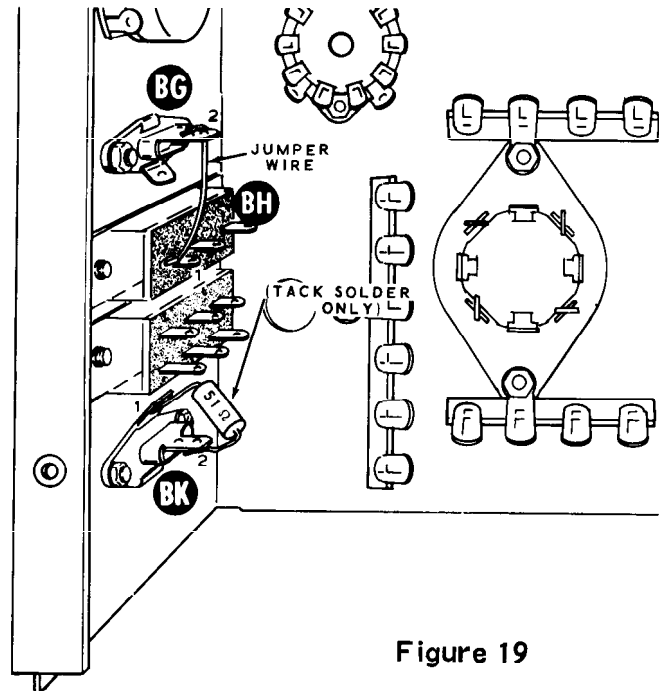

Figure 19
- () Refer to Figure 19 and temporarily connect a short jumper wire from lug 1 of the HAM SCAN-SPECTRUM ANALYZER slide switch (BH) to the center lug of the IF INPUT phono socket (BG).
- () Again refer to Figure 19 and temporarily connect one lead of a 51 Ω resistor from the center lug of the RF INPUT phono socket to its ground lug (BK).